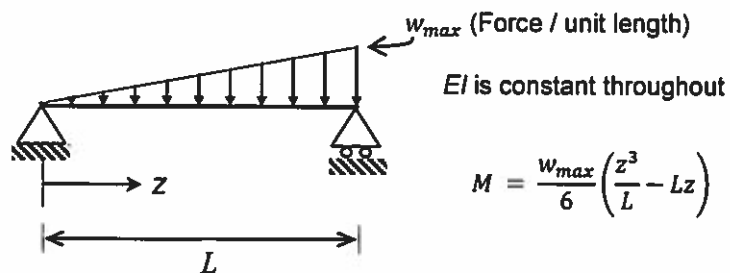

Figure 4b
- (b) Figure 4b shows a simply supported beam subjected to a downward linearly varying distributed load and includes the equation for the bending moment.